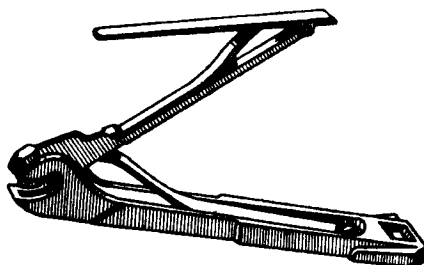

FIGURE 39. FOLLOWER AND FLOOR PLATE.
c. To unload the rifle M1891, open the magazine floor plate and remove the cartridges. The magazine floor plate catch is located on the lower rear part of the magazine, forward of the trigger guard. Press the catch rearward; the follower and floor plate (fig. 39) will swing down and forward on a pivot pin, and the cartridges will spill out. Open the bolt and extract the round from the chamber.
- (3) To remove the magazine follower, push the magazine floor plate catch rearward (the catch is on the bottom of the magazine, just forward of the trigger guard); at the same time, pull the floor plate down. The follower and floor plate (fig. 39) will swing down and forward on a pivot pin. Grasp the follower and floor plate with the forefinger and thumb, press them together, and pull down to remove them.